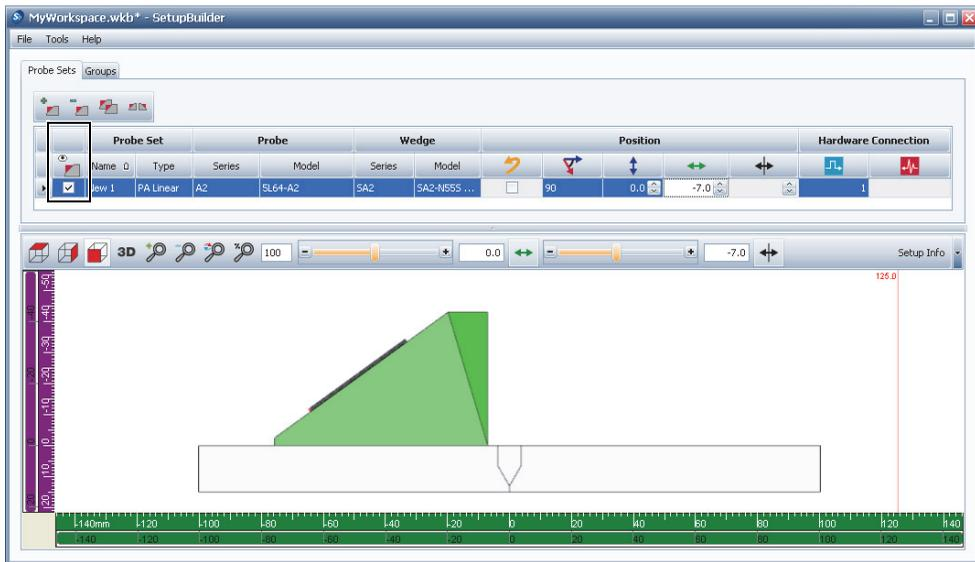

Figure 9-7 The Probe Sets tab with the Visible check box selected
In RayTracing view, the probe-set visibility can be set using the check box in the **Visible** column () on the left side of the probe-set parameters table under the **Probe Sets** tab. By default, a probe set is visible and the check box selected upon creation (see Figure 9-7 on page 98). If a probe set's **Visible** check box is cleared, the groups associated with the probe set also become invisible, and they cannot be made visible in RayTracing view unless the probe set is displayed.
- To show the probe set and all related groups in RayTracing view, select the **Visible** column () check box (see Figure 9-7 on page 98).